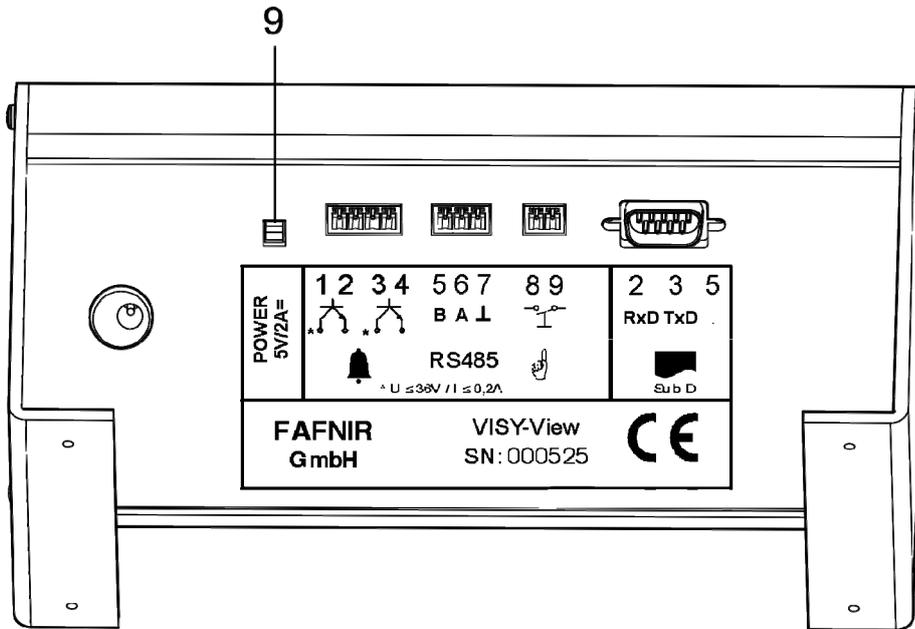

Figure 2: VISY-View rear
The on-off switch (9) is found on the underside of the device (see Figure 2). After installing and turning on the device by using the on-off switch, the "Power" LED lights up green (see section "Power LED" in this chapter).
The green Power LED (2) lights up as soon as the unit is connected to the power supply system and is switched on by means of the on-off switch (9) (see Figure 2).
- (7) Turn the VISY-View display on using the on-off switch (9) (see Figure 2).